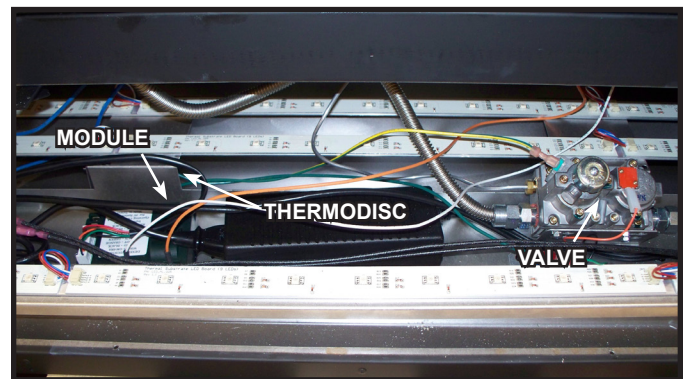

Figure 12.2 Valve Cavity
**Note:** If the fan is moved from one side to the other, the valve, all electrical components, including the thermodiscs, must also be moved to the opposite side of the appliance. See appropriate configuration in relation to the valve in Figures 12.2 and 12.3. In addition, two jumper wires will be required between the two 107-559a wire harnesses that plug into the junction box. These wires must be 24 inches in length, made from 14 gauge AWG wire (or equivalent), have a 1/4 inch male insulated terminal at each end and be made by a licensed electrician following all local electrical codes.